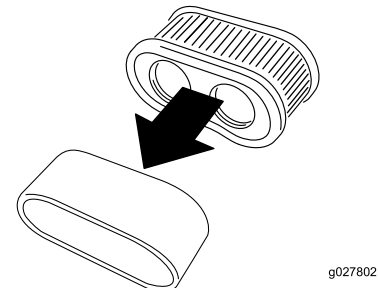

Figure 37
5. Separate the foam and paper elements (Figure 37).